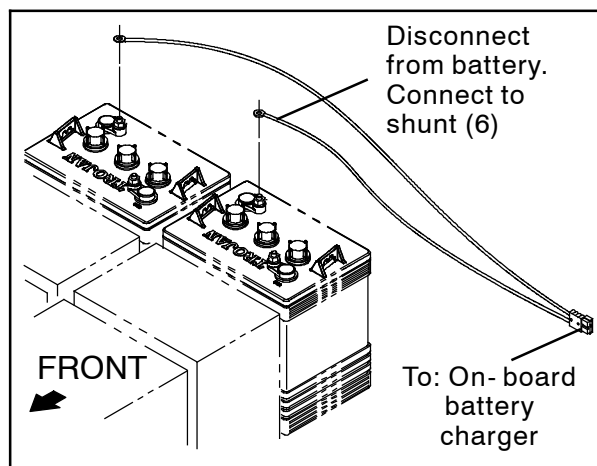

FIG. 4
- 6. Machines with optional on-board battery charger only:** Disconnect the on-board battery cable from the battery. (Fig. 4)